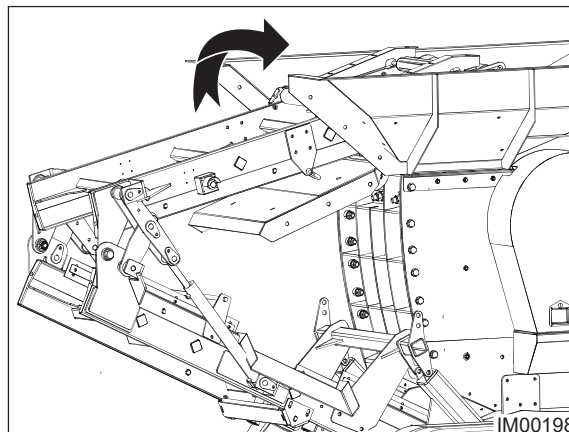

Fig: 10.6 - Conveyor Working Position
8. Release the conveyor unfold button, when the conveyor reaches the Transport Position (Fig: 10.6).